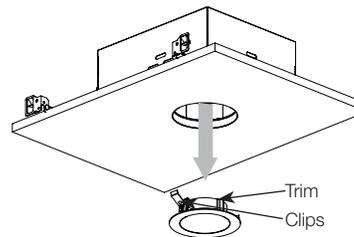

Figure 2
3. Field replace reflector (**Figure 2**).